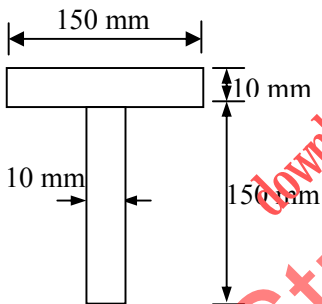

Fig. 7 Que 4(a)
- Q.4** (a) Determine moment of resistance of a section of a beam shown in **Fig.7**, if allowable bending stress is 230 MPa. **07**